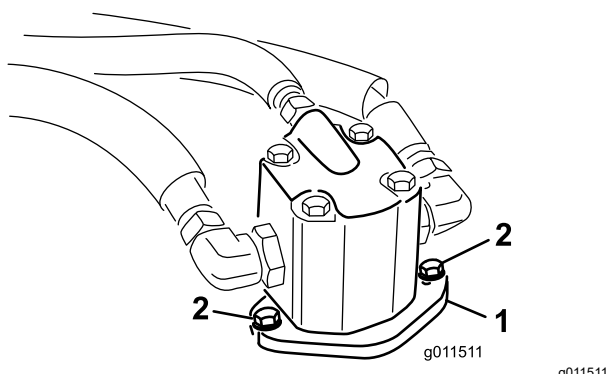

Figure 77
4. Remove the bolts securing the hydraulic motor to the cutting unit (Figure 77).